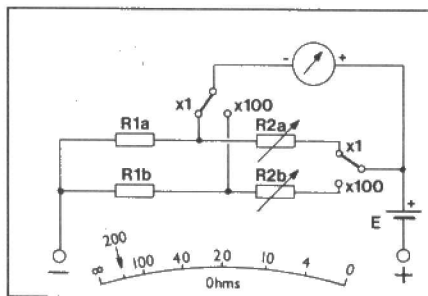

Figure 1. The Ohmmeter
The circuit of Figure 1 shows the general principle of the ohmmeter, uncomplicated by the switches, shunts and multipliers that make up the full circuit of a multimeter. Only two resis-
Most multimeters have at least three resistance ranges, some have five or six. For the high resistance ranges a larger value battery is often switched in, to develop enough current to drive the meter to full scale. The moving-coil meter is in series with some resistance (R1) and a battery (E). A shunt variable resistor (R2) bypasses some of the battery current. If the terminals are shorted together, R2 can be adjusted so that the meter reads exactly full-scale. Therefore, since the aim in using the instrument is to measure the resistance between its terminals (which in this case is zero), then zero ohms is at the extreme right hand of the scale. Any resistance value greater than zero will reduce the circuit current; the larger the resistance value, the smaller the deflection. Infinite resistance (open circuit) gives no deflection. A typical scale for 'low ohms' is also shown in Figure 1, and is obviously non-linear.